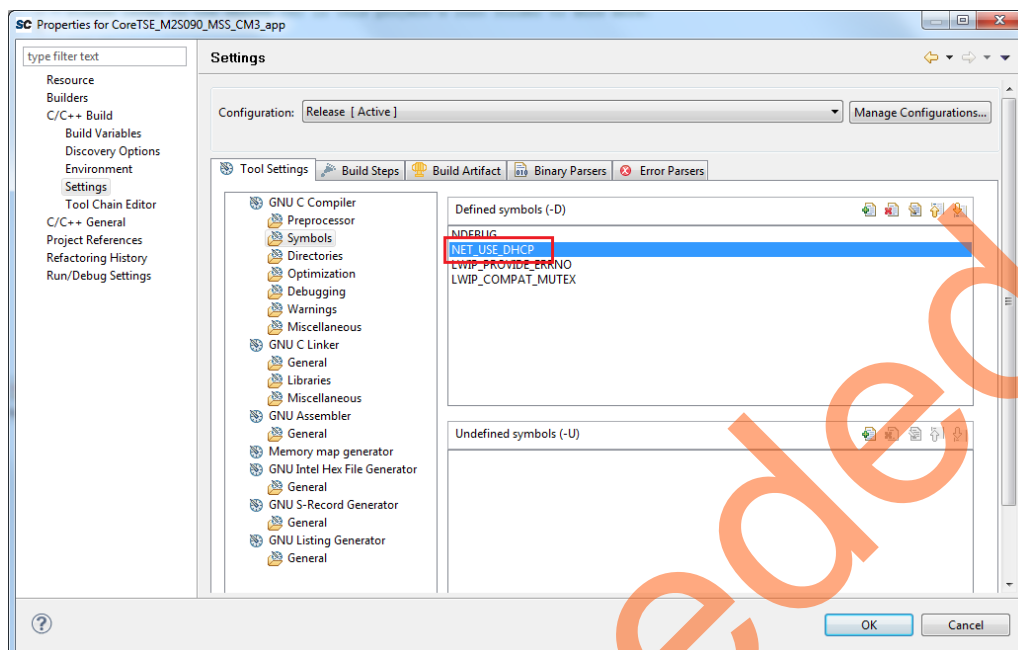

Figure 2 • CoreTSE_M2S090_MSS_CM3_app Properties Window
2. Remove the symbol **NET_USE_DHCP** in **Tool Settings** of the **Properties** for **CoreTSE_M2S090_MSS_CM3_app** window, as shown in Figure 2.